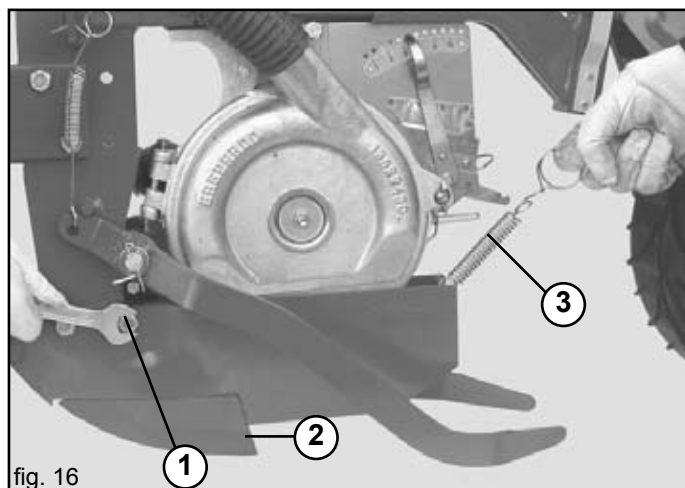

fig. 16
- 2) If fitted, remove the antibounce bolt (1, Fig.16);
- 3) Unhook the lister (2 Fig.16) by removing the spring (3);